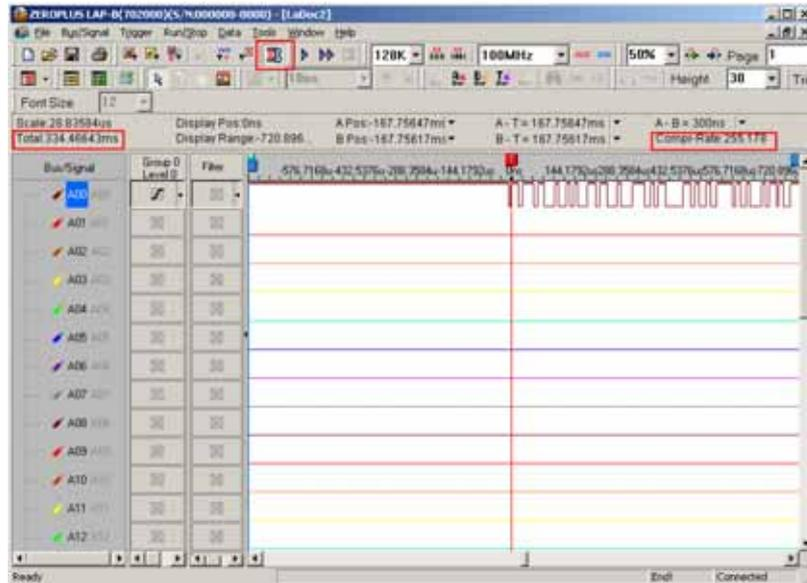

Fig 4-139 – Before and After Compression
- Step 4.** Click **Run**, and then activate the signal from the tested circuit to acquire the result on the waveform display area. Fig 4-139 shows the result before and after compression has been applied.